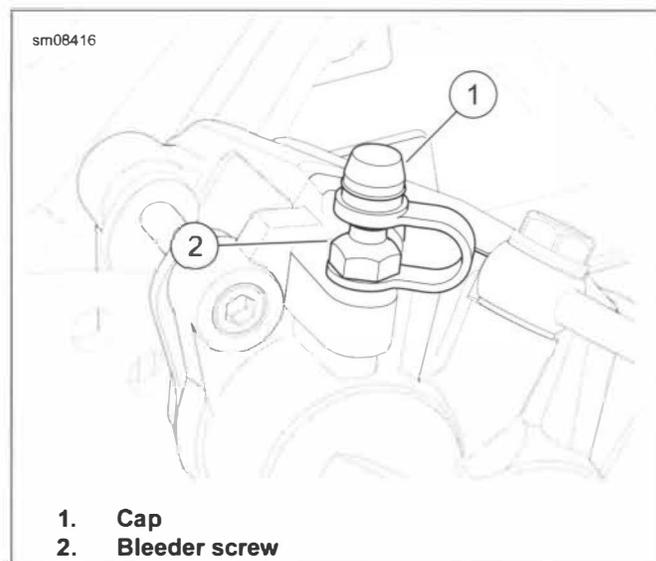

Figure 3-49. Bleeder Screw (Typical)
- a. See Figure 3-49. Remove cap (1) from bleeder screw (2).